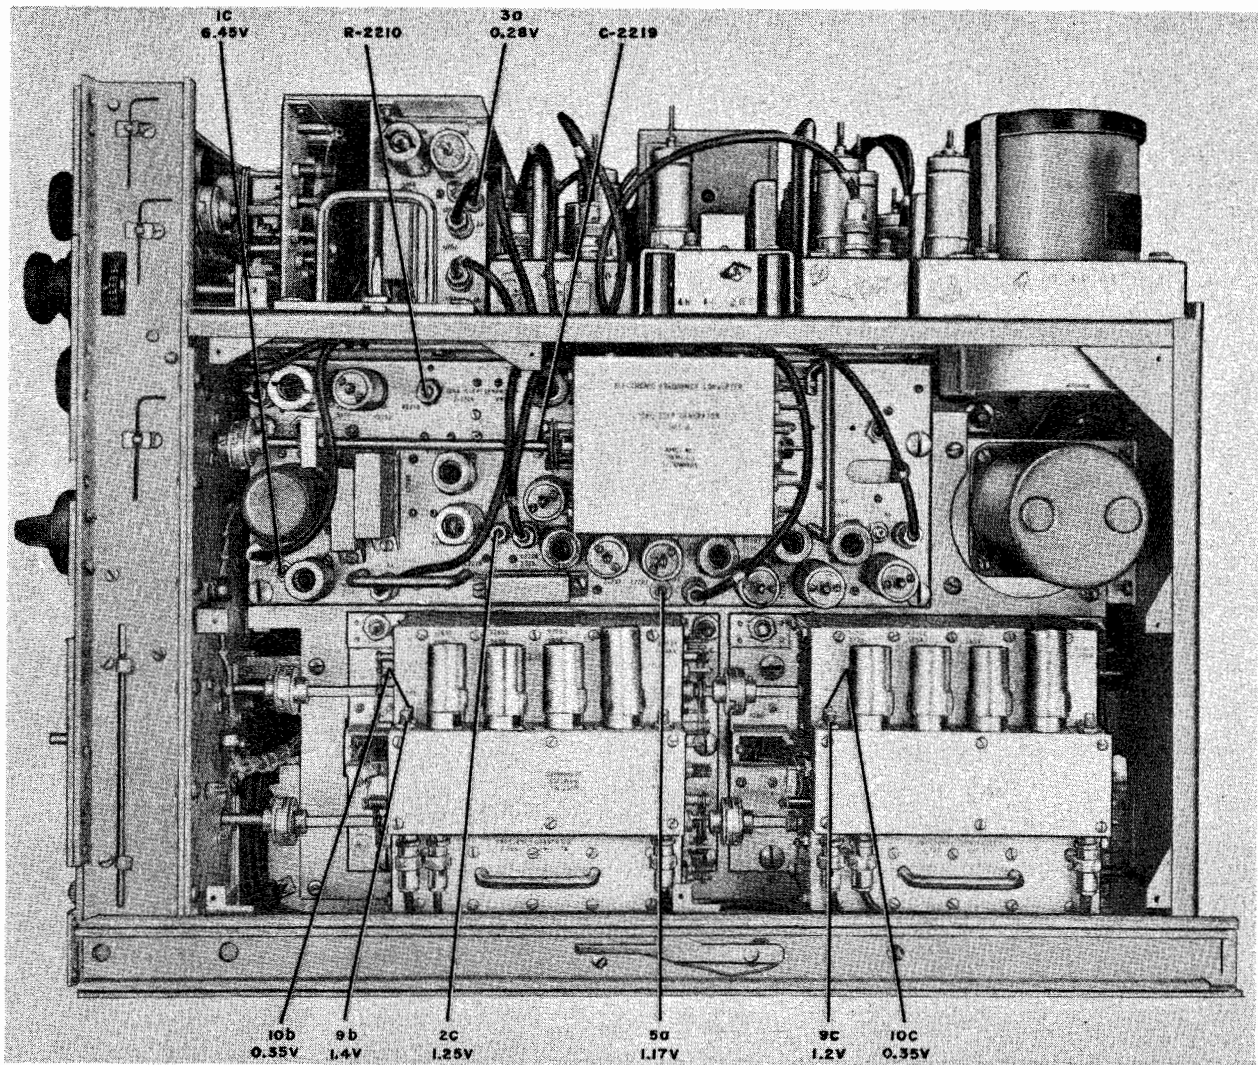

Figure 6-7. RFO, Right Side, Unit Test Jacks, Voltages
Step 5. Adjust L-2001 on unit 1 for zero beat. (See figure 6-7 for location of L-2001.) Rotate L-2001 clockwise until beat is heard, then counterclockwise through null until beat is heard again.
| RFO, Right Side (See figure 6-7.) | 3 | 3a | 0.28 | | | | |
Step 3. Adjust R-2210 (see figure 6-7 for location of R-2210) for proper Lissajous pattern, if necessary, as follows:
Step 5. Adjust C-2219 (see figure 6-7 for location of C-2219) for correct Lissajous pattern, if necessary, as follows: